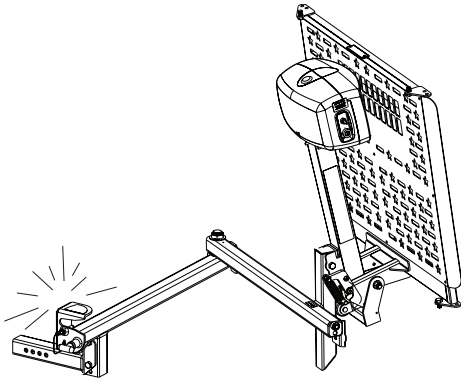

Figure 3-12
1. Close the Swing-Away by returning it to the stowed position. *See Figure 3-12.*